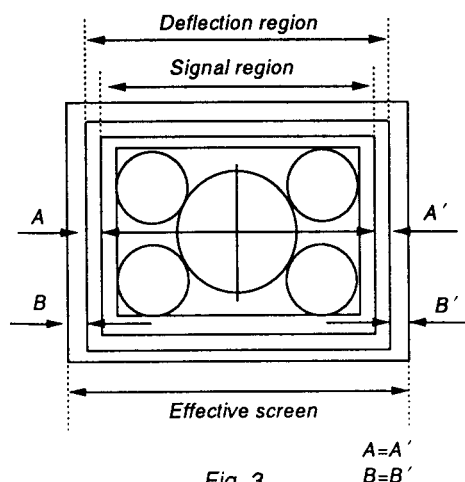

Fig. 3
7. Adjust **[60 VIDEO PHASE]** so that the signal region comes to the center (A=A') of the deflection region. (Fig. 3)